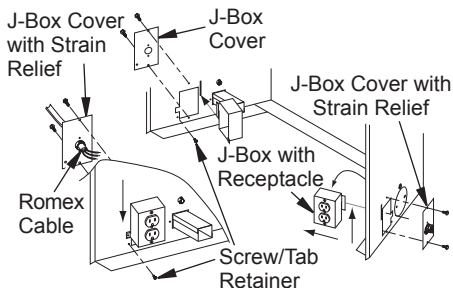

Figure 26 - Relocating Junction Box Receptacle and Electrical Supply Connection
1. Remove 2 screws and outer cover with strain relief bushing on right side of cabinet (see Figure 26).
8. With junction box cover removed, pull end of 3-wire Romex supply line through universal strain relief bushing on cover (see Figure 26, page 18).